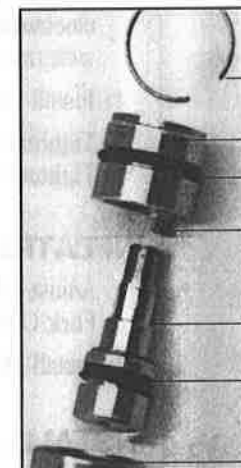

Fig. 21
1. Remove the damping adjuster from the air seal assembly (Fig. 21). Remove both O-rings.
3. Apply a thin layer of Teflon grease to a new O-ring and install it onto the air seal assembly. Make sure the pin on the damping adjuster does not hit the damping stop (Fig. 21) as you press the air seal assembly over the damping adjuster. Do not press further than contact with the adjusting axle. Note: Used O-rings may be scratched, which could cause pressure loss.